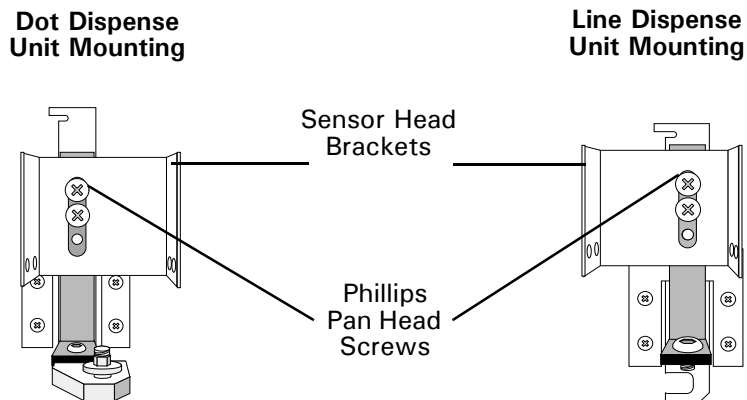

Figure 4
6. Assemble sensor head bracket onto sensor bracket support using two phillips pan head machine screws. Leave screws loose enough to allow movement of sensor head bracket for sensor height adjustment. See Figure 4.
The Sensor Head adjustment is performed with an empty syringe and piston. The height is set by moving the sensor bracket up and down. See Figure 4.
3. Move sensor bracket support up or down until sensor level is about 0.1 to 0.2 inch [2.5mm to 5.0mm] above top of piston or above desired liquid level if piston is not going to be used. See Figure 4.